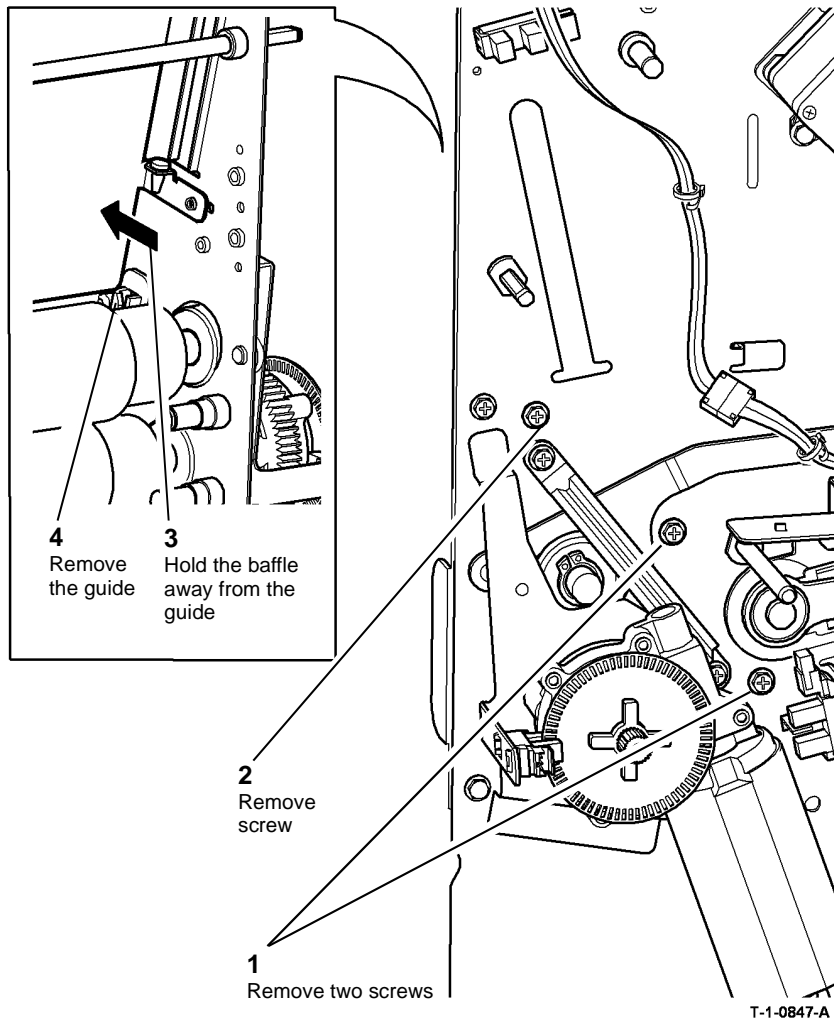

Figure 5 Rear guide removal
11. Figure 5, remove the grease roll gate rear guide.